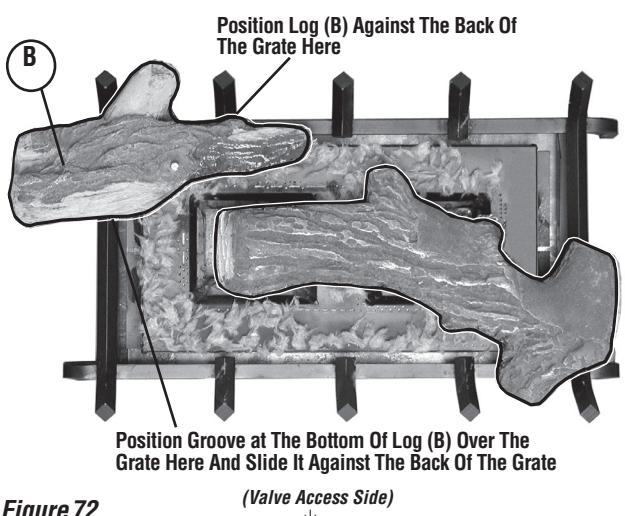

Figure 72
7. Place Log (B) as shown in **Figure 72**.